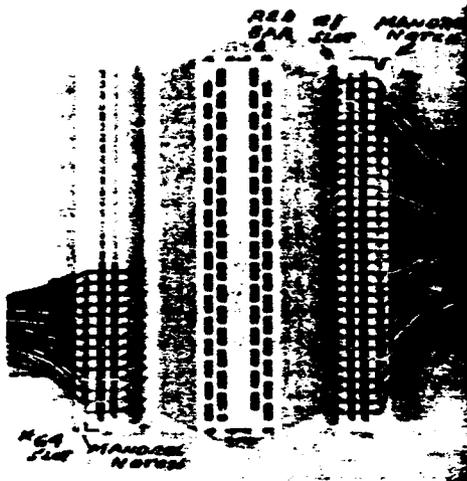

FIG. 1 RECEPTACLE - HOUSING AND MANDRELS (32 PAIR CONNECTOR) (Par. 3.12)
3.12 The receptacle is a three-part plastic assembly consisting of two mandrels, around which the wire ends are formed, and a receptacle housing. The tip and ring wires are placed side-by-side (preferred) in the mandrel. (see Figure 1).